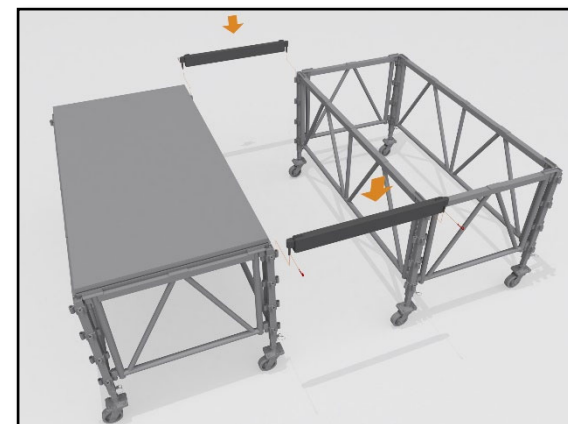

Fig. 22 – Assembling Cross Stage
9.1.7.1 Assemble another rectangle of Gates separate to the first bay but close by. *Fig. 22 – Assembling Cross Stage*